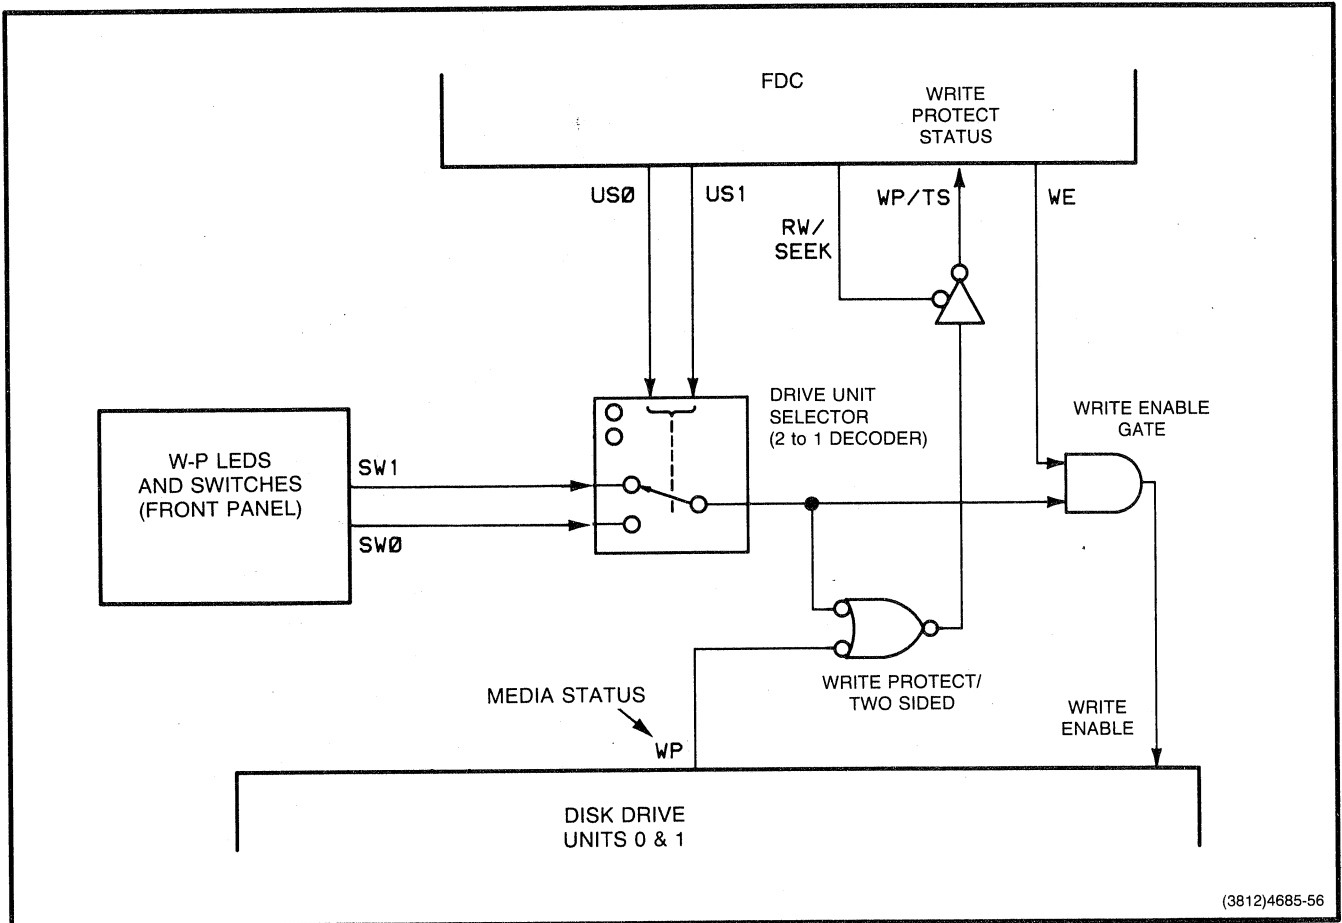

Figure 12-39. Write-Protect Circuit.
Write-Protect Block. The Write-Protect (WP) logic (Schematic A3-4) gathers all WP inputs (protected disk media and WP switches), reports each drive unit WP status to the FDC, and controls the Write Enable line (to the write heads)(Figure 12-39).